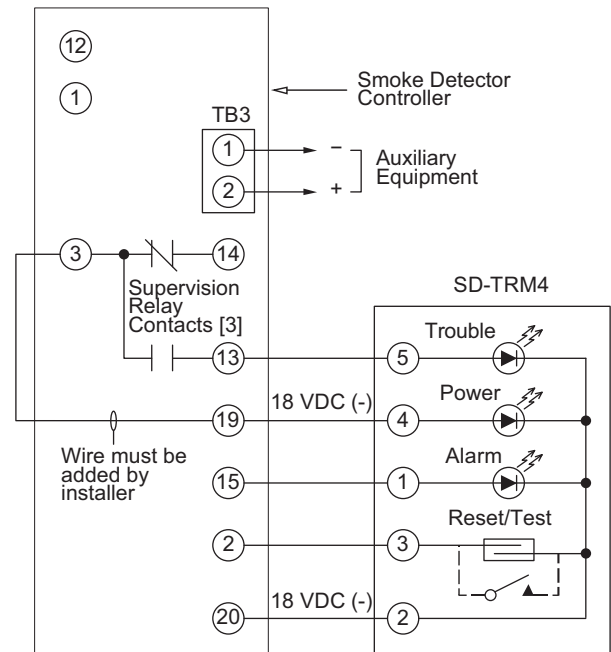

Fig. 50 — Remote Test/Reset Station Connections
The test/reset station dirty sensor test checks the test/reset station's ability to initiate a sensor dirty test and indicate the results. It must be wired to the controller as shown in Fig. 50 and configured to operate the controller's supervision relay. For more information, see "Dirty Sensor Test" on page 32.
1. Verify that the remote test/station is wired as shown in Fig. 50. Repair or replace loose or missing wiring.